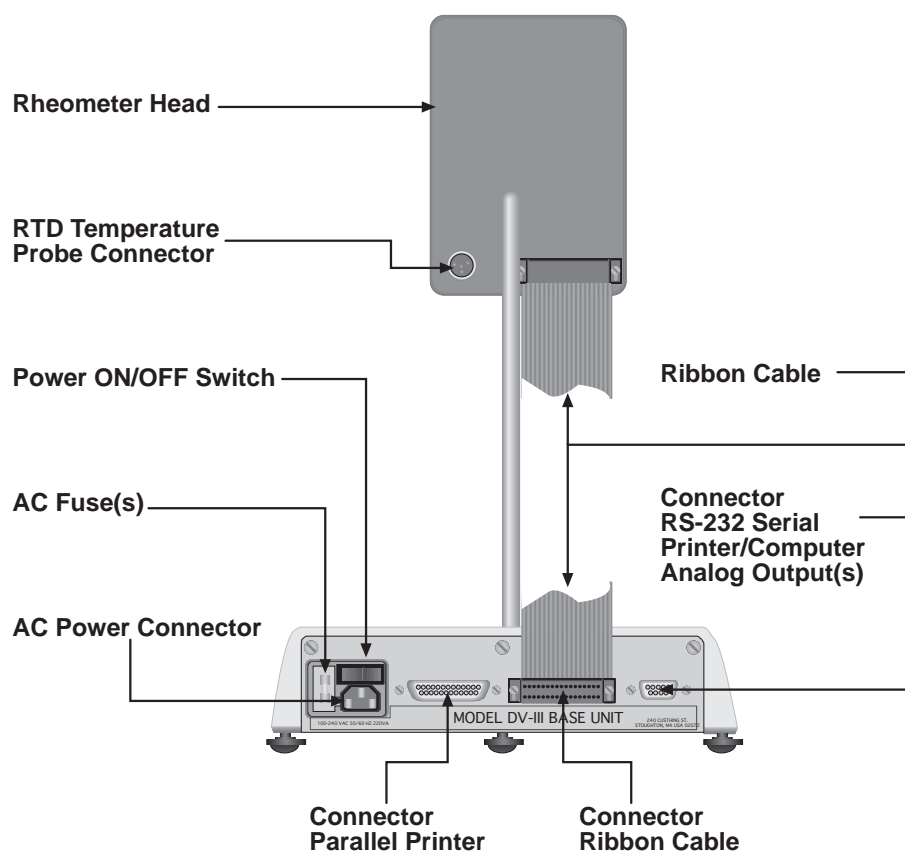

**Figure 2**
- 2) Insert the mounting handle on the back of the DV-III+ into the hole on the clamp assembly (Figure 2).
- 3) Tighten the DV-III+ clamp Screw (Figure 2).
- 6) The Rheometer must be leveled before the instrument is zeroed and readings are taken. The level is adjusted using the three leveling screws on the base. Adjust so that the bubble level on top of the DV-III+ (Figure 2) is centered within the circle.